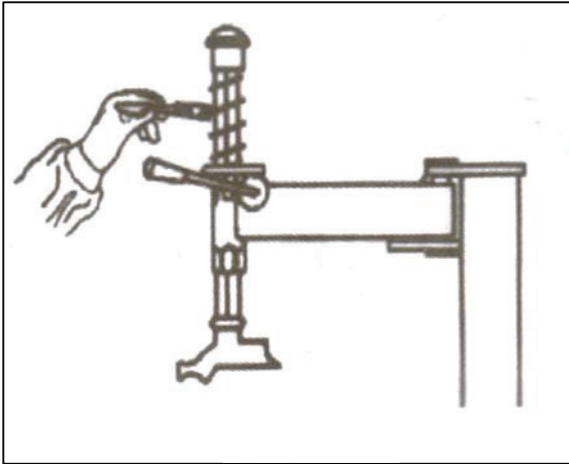

FIG 24
1. Use diesel oil to clean the hexangular shaft (Fig 24). Use machine oil to lubricate.